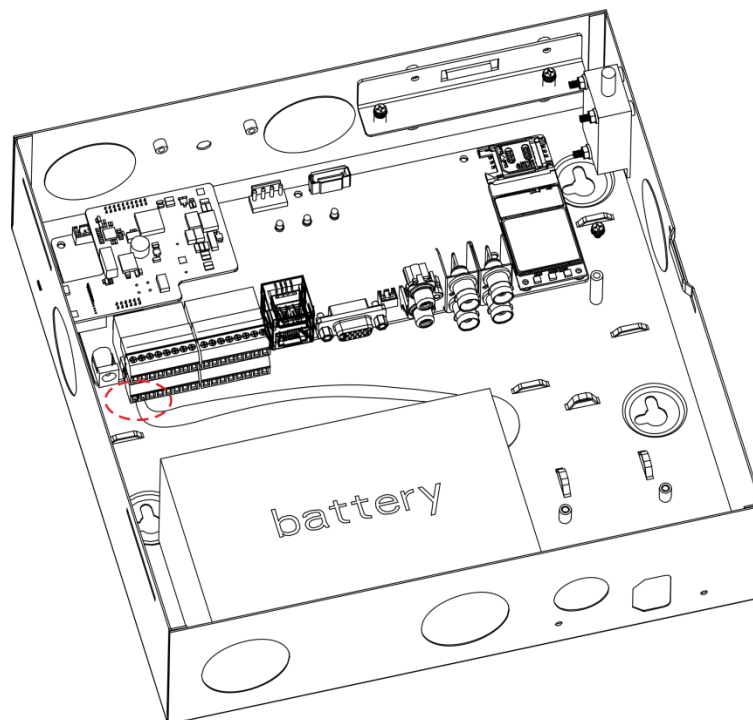

Figure 2-8
Step 2. Insert one end of battery line into battery, and insert the other end of battery into external backup power port, see Figure 2-8.